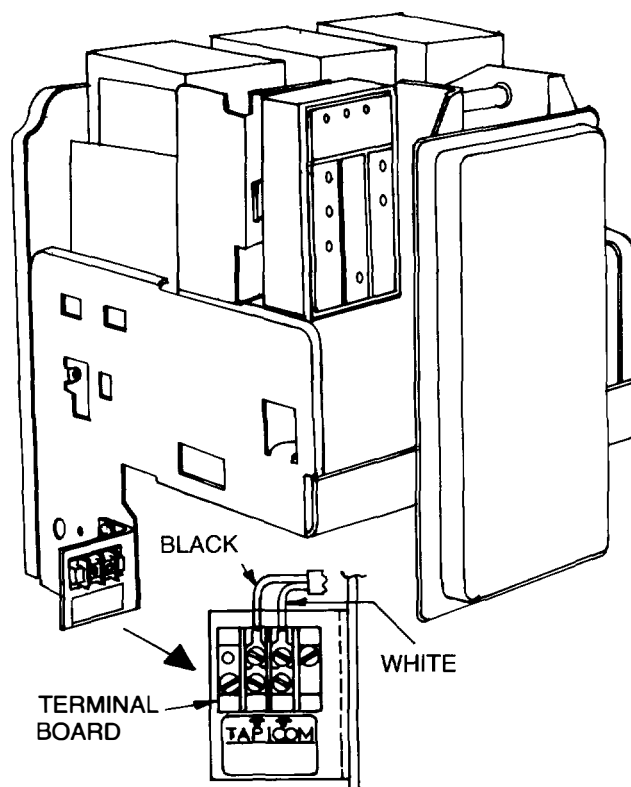

Figure 4-2
The 4th wire disconnect is a terminal board located behind the programmer. It is assembled to a bracket attached to the side of the front frame where the racking mechanism support plates would be mounted (see Figure 4-2).
2. If the terminal board assembly is being added, mount it as shown in Figure 4-2.